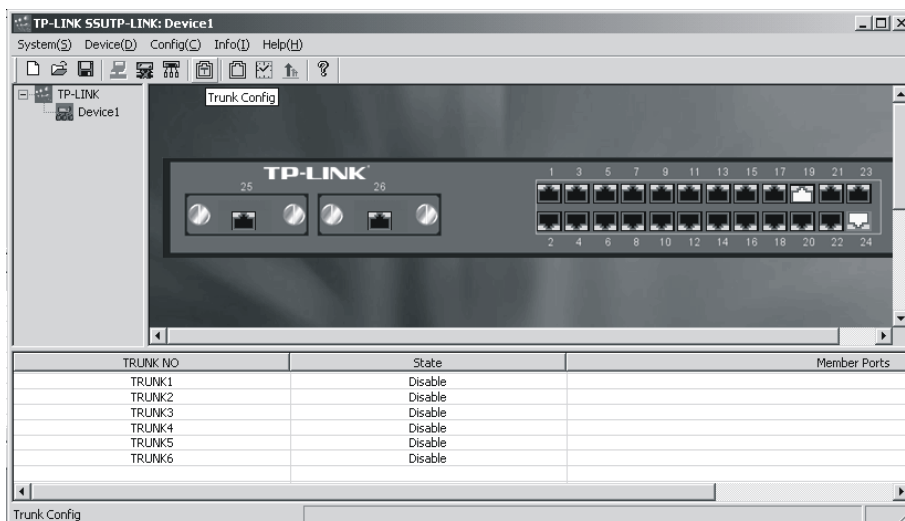

Figure 5-14
**Steps of setting:** Click main menu->**Config-> TRUNK Config->Config Effect** or click the TRUNK icon on toolbar. As figure 5-14.